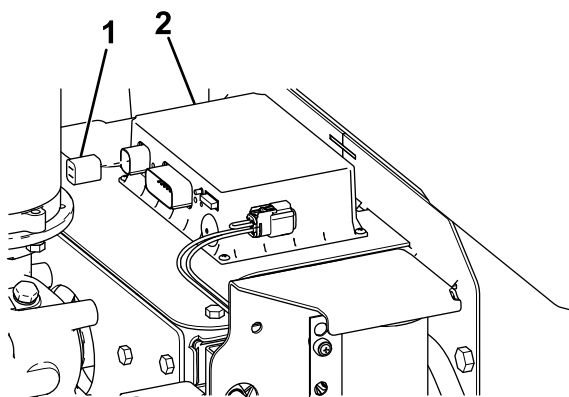

Figure 21
12. Locate and remove the plug on the control module (Figure 21).
14. Connect the pump connector and cover harness to the control module (Figure 21).